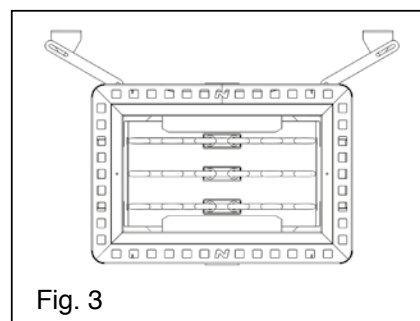

Fig. 3
- Ultra Small can also be fastened to the wall. See Fig 3.